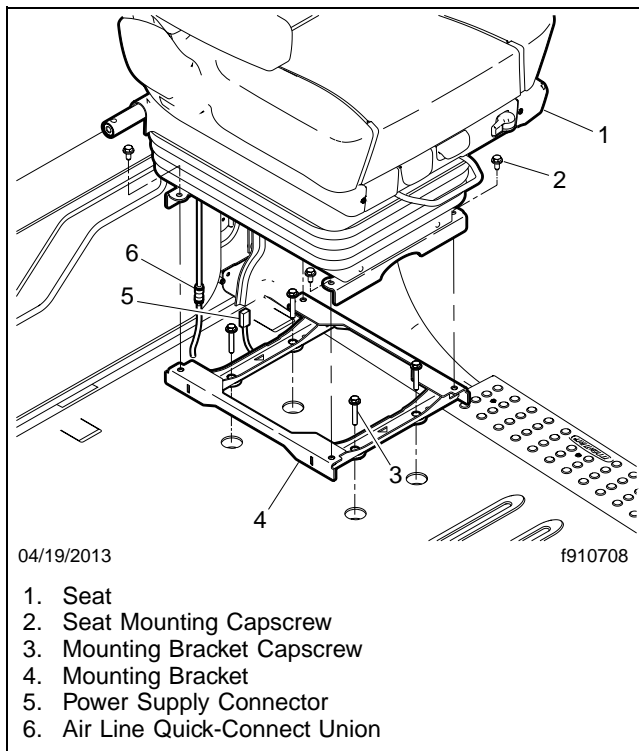

Fig. 13, Seat Installation
4. Disconnect the power supply from the seat, if applicable. See Fig. 13.
1. Position the seat on the mounting bracket. Attach the seat to the mounting bracket with four capscrews. See **Fig. 13**. Tighten the capscrews 11 to 13 lbf-ft (15 to 18 N·m).